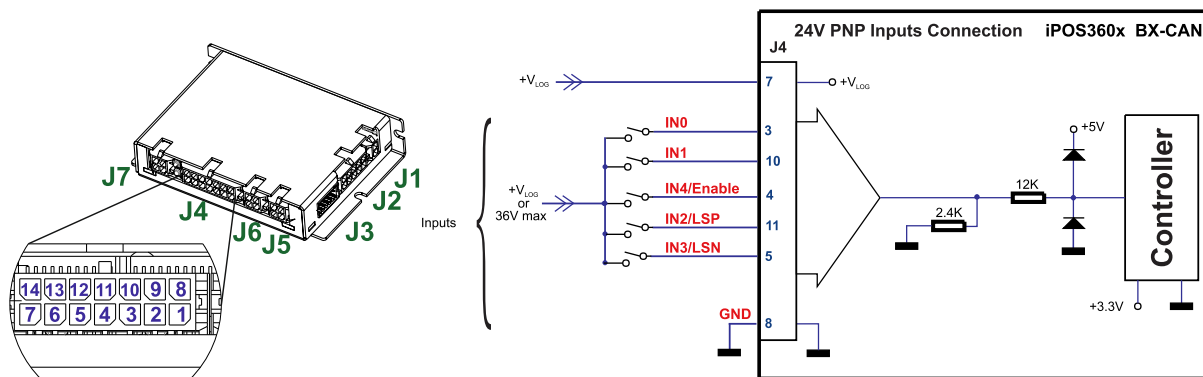

Figure 3.7. 24V Digital PNP Inputs connection
2. Default input range for analog inputs is 0÷5 V for REF and FBDK. For a +/-10 V range, see Figure 3.7.